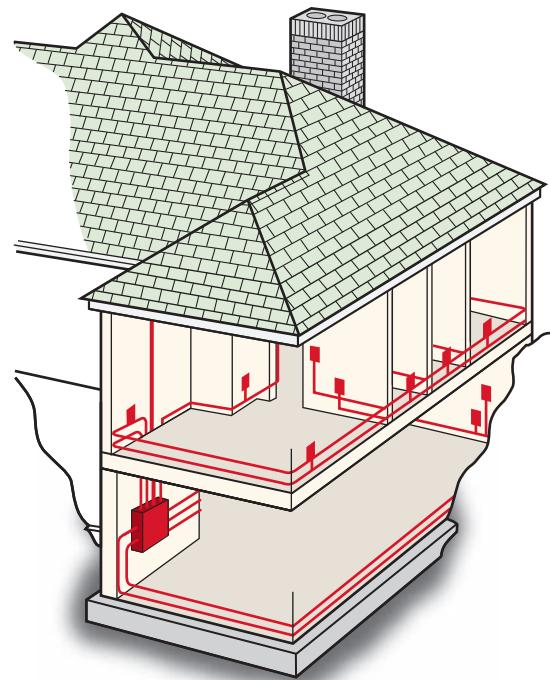

FIGURE 1-5 Three-dimensional view of house wiring. (*Delmar/Cengage Learning*)
The electrician must be able to (1) convert the 2-dimensional plans into an actual electrical installation and (2) visualize the many different views of the plans and coordinate them into a 3-dimensional picture, as shown in Figure 1-5.